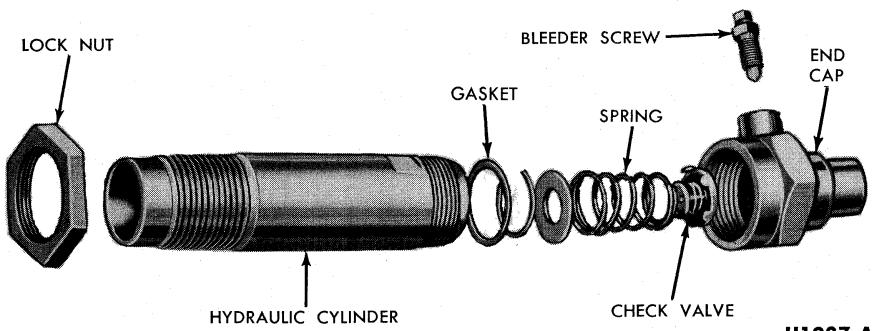

FIG. 39—Hydraulic Cylinder, Check Valve and End Cap
8. Hold the end cap in a vise, and remove the hydraulic cylinder from the end cap (Fig. 39). Remove the snap ring from the end cap, and remove the washer, spring, and check valve.
21. Hold the end cap in a vise, and assemble the parts as shown in Fig. 39. The small end of the spring must be placed inside the check valve clips.